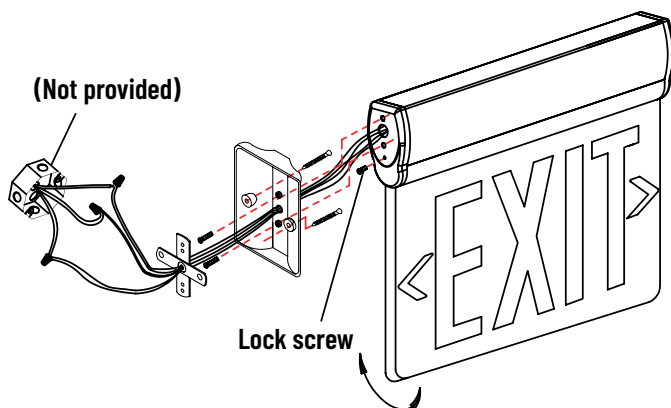

Figure 4 - End Mounting
5. Assemble canopy on aluminum housing with (2) 10\*-24 (UNC) screws and make proper lead connections. See "Electrical Connections" below.
6. Using (2) M4\*40 screws supplied tighten canopy to mounting plate.
7. The unit may be installed on any surface and rotate EXIT panel in any angle from 0 degrees to 180 degrees, lock EXIT panel by mounting lock screw. (Figure 4)
Make the proper supply lead connections. If using 120VAC, connect the black and white leads to the building utility. If using 277VAC, connect the orange and white leads to the building utility. Cap off unused wires. In all cases, use standard wire nuts in connection to leads. (Figure 4)